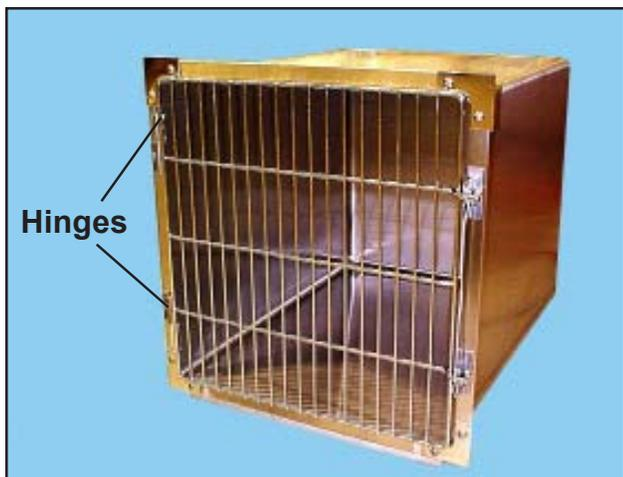

Figure 2. Hinges on a Regal Cage
1. With a 1/4 in. or smaller punch and a small hammer, remove both hinge pins from the cage door (Figures 2 and 3).